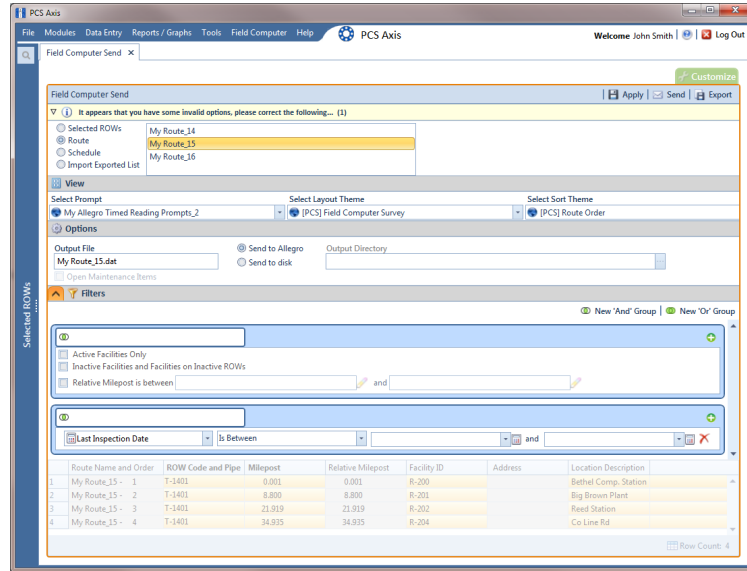

Figure 8-29. New 'And' Filter Group
- a** Click  **New 'And' Group** to open the filter properties group box (Figure 8-29).
NOTE: Clicking the  toggle button in the  information bar displays important information related to required settings (Figure 8-29).